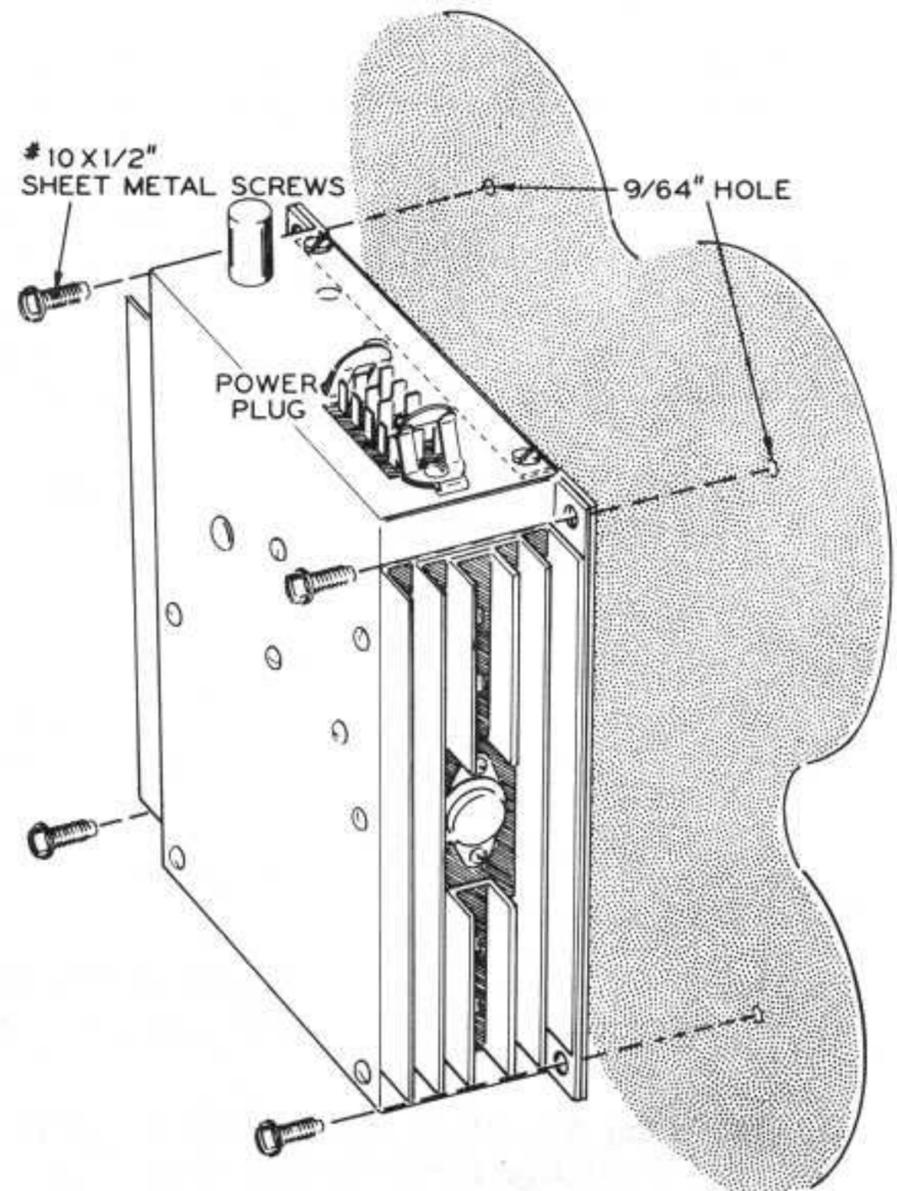

Figure 4
- ( ) Referring to Figure 4, mount the complete unit at the prepared location. Start all four #10 x  $1/2$ " sheet metal screws into the mounting surface, and then tighten securely.